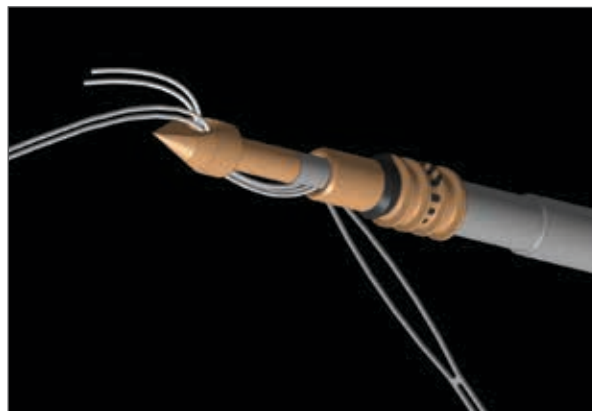

Figure 5
5. To snare the sutures through the anchor, pull the cross bar of the suture loader handle away from the shaft of the anchor inserter handle at approximately a 45° angle and pull the suture loader handle away from the anchor inserter. Discard the suture loader after the sutures have been passed through the anchor (**Figure 5**).